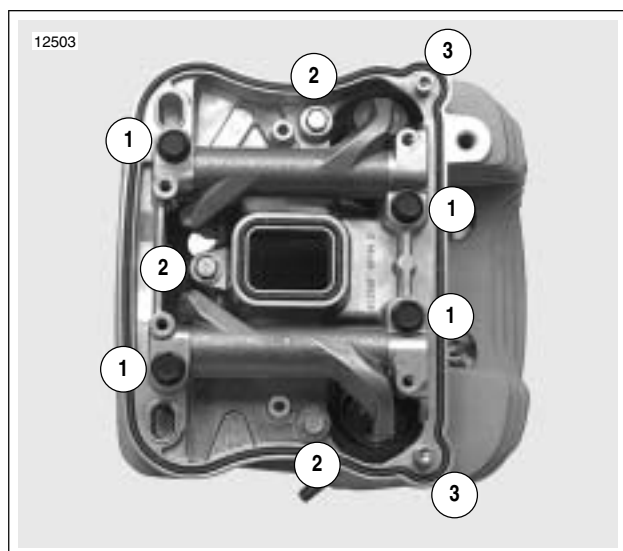

Figure 3-69. Lower Rocker Box Fasteners
10. See Figure 3-69. Install hardware attaching lower rocker cover to cylinder head in the following order. After loosely installing all fasteners, use a cross pattern on the four large bolts that fasten the lower rocker box to head to tighten and then torque to specifications. This will bleed the tappets. Finish tightening remaining fasteners. Fastener sequences, sizes and torque specifications are listed in Table 3-24.
- Tighten bolts (1) to 18-22 ft-lbs (24-30 Nm).
- Tighten bolts (2) to 135-155 **in-lbs** (15-18 Nm).
- Tighten bolts (3) to 135-155 **in-lbs** (15-18 Nm).